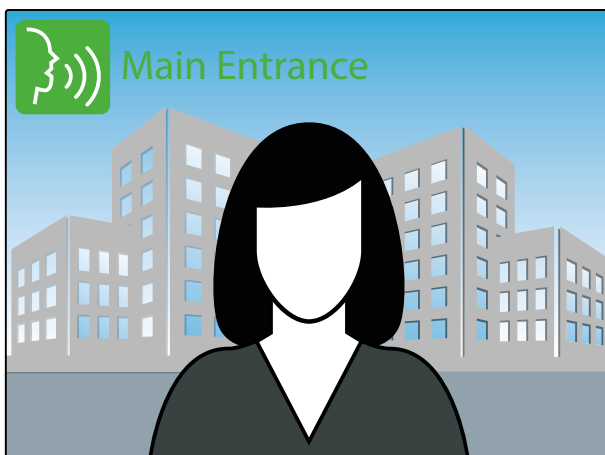

Fig. 30 The conversation starts after the handset is picked up
- Pick up the handset to start the conversation with the visitor (Fig. 30).